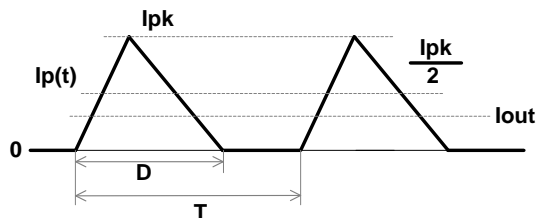

Figure 6—Inductor current waveform
The internal MOSFET turns off when $I_{P(t)}$ rises to I_{PK} (see Figure 6). The output current is calculated with Equation (6):